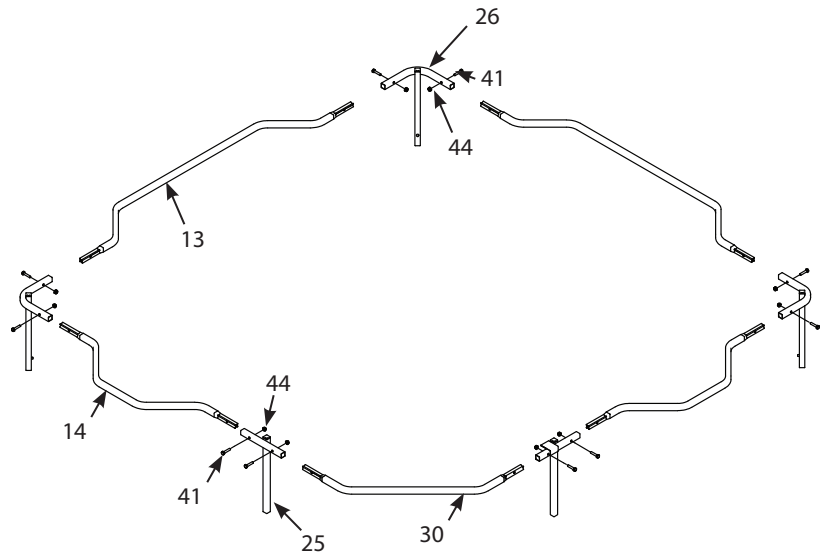

FIGURE 8
8. Assemble the shooting rail with the two long shooting rail parts (13), two short shooting rail parts (14), one shooting rail entry part (30), three shooting rail corner hubs (26), and two shooting rail entry hubs (25) using ten 1/4-20 X 1-1/4 IN bolts (41) and 1/4-20 nuts (44). **SEE FIGURE 8.** *Securely tighten all loose hardware at this time.*